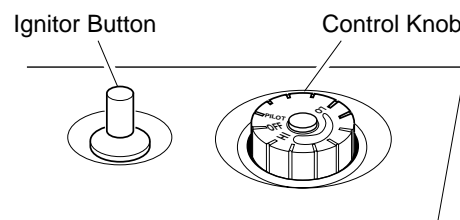

Figure 16 - Control Knob In The OFF Position
4. Wait five (5) minutes to clear out any gas. Then smell for gas, including near the floor. If you smell gas, STOP! Follow "B" in the safety information in column 1. If you don't smell gas, go to the next step.
5. Turn control knob counterclockwise to the PILOT position. Press in control knob for five (5) seconds (see Figure 16).